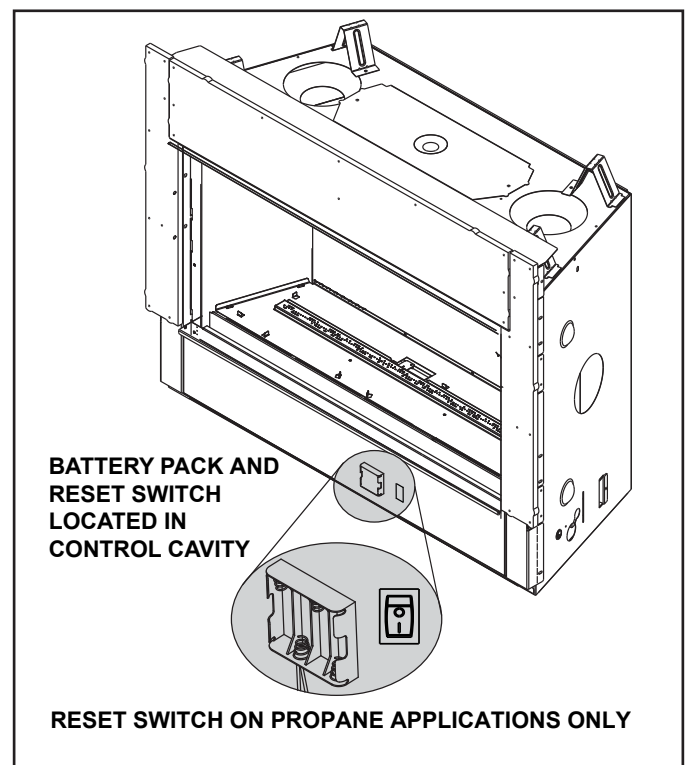
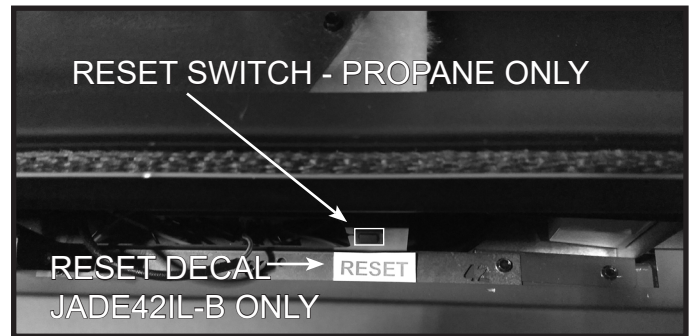

Figure 3.8 Battery Pack Location/Control Cavity
Figure 3.10 Reset Switch Location (Decal on JADE42IL-B Only)
The IntelliFire Touch® intermittent pilot ignition system comes with a battery backup system that enables the system to operate in a power outage. The system offers seamless transition from household AC power to battery backup. A factory-installed battery pack is located in the control cavity of the appliance. See Figure 3.8. Battery longevity and performance will be affected by long term exposure to the service temperatures of this appliance.
1. The battery pack is located in the control cavity of the appliance. To access the control cavity of the appliance Remove the decorative barrier front and glass assembly. See Section 4 for instructions on glass assembly removal. See Figure 3.8 for location of battery pack.
2. Locate the battery pack and remove it from the control cavity. It is held in place by hook and loop fastener. Insert four AA cell batteries. Battery polarity must be correct or module damage will occur. See Figure 3.8. A complete wiring diagram is included in the Electrical section of the appliance Installation Manual.
For propane applications, (JADE42IL-B) the appliance has a hard lockout and the IFT-ECM must be reset. This appliance has a reset switch located inside the control cavity for propane applications. See Figure 3.10 for approximate location.
The JADE42IL-B appliance has a reset switch located inside the control cavity. See Figure 3.8 and Figure 3.10 for approximate location.
- Locate reset switch inside the appliance. See Figure 3.10. Hold reset switch down for one second and release. A “beep” will signal module is reset.